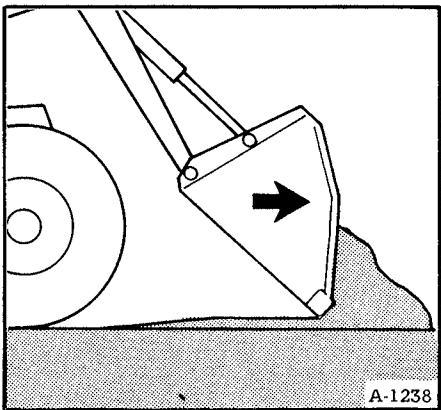

Fig. 19 Spreading Fill
1. Spread dirt by driving forward with the bucket raised off the ground and tilted down (Figure 19).